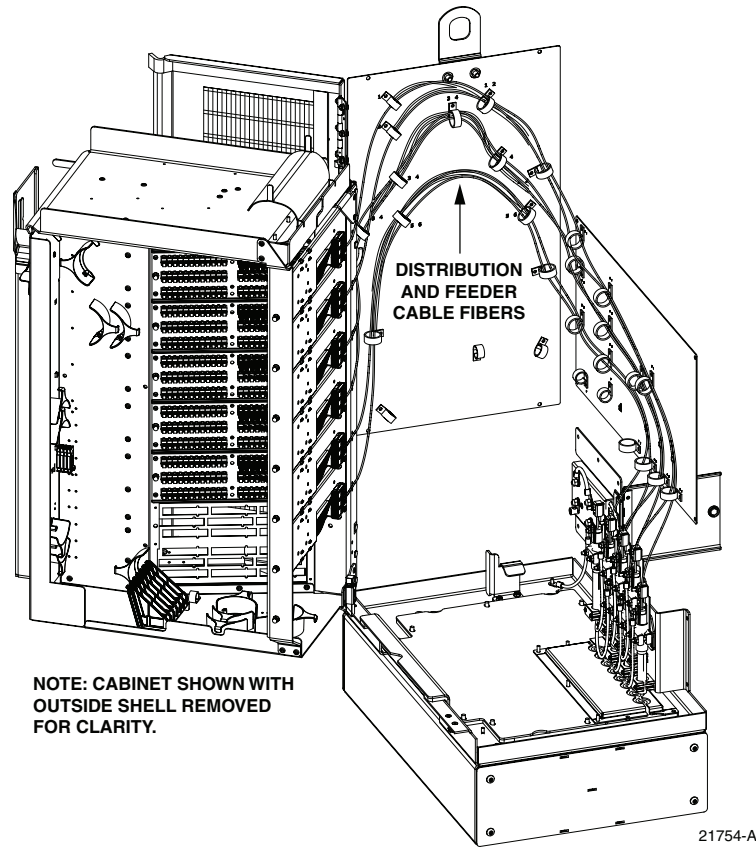

Figure 21. Route and Secure Distribution Cable Subunits
11. Route and secure the cable subunit fibers to the back of cabinet as shown in Figure 21.